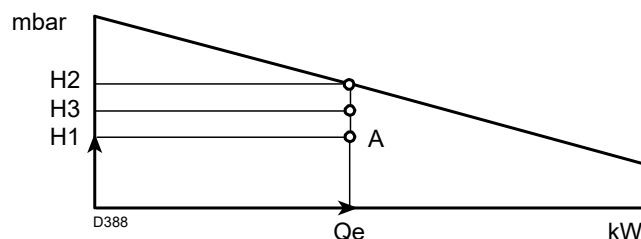

Fig. 3
- 4 Draw a vertical line from point A)(Fig. 3), and calculate the maximum pressure H2 of the firing rate.
If H3 is higher than H1)(Fig. 3), the burner can output the requested flow rate.